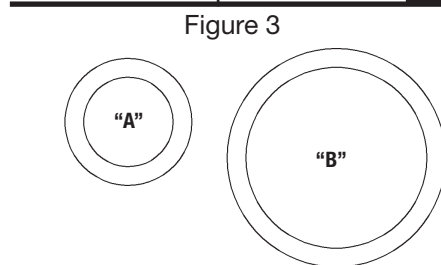

Figure 3
6. Install the O-ring "A" (see Figure 3) onto the valve adapter (C) (Figure 4) using the lubrication provided. Insert the adapter into the A2C-M1 valve body inlet. Install the retaining nut (D) onto the valve body being careful to avoid cross-threading.